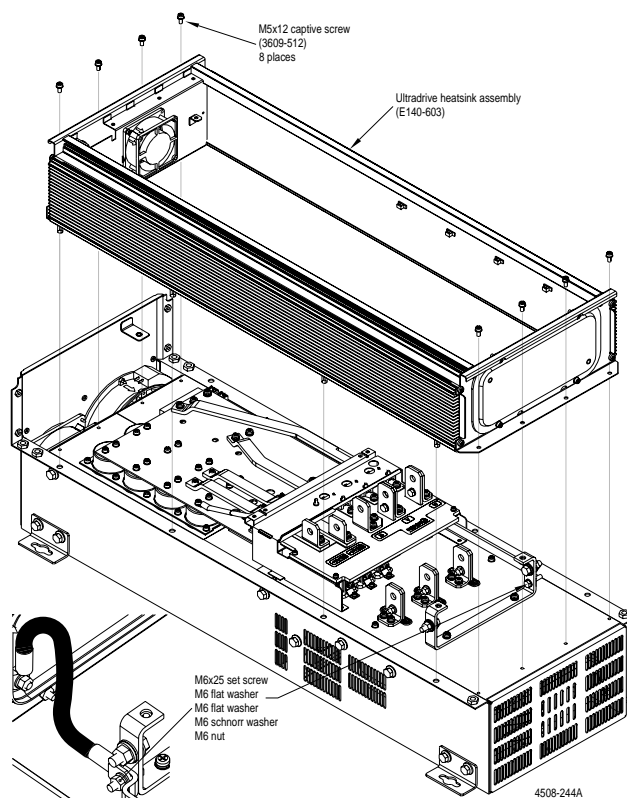

Figure 3.20: Heat Exchanger Removal
- 6) Remove the 8 off M5x12 Phillips head screws from the top and bottom of the heat exchanger frame as shown in figure 3.20.